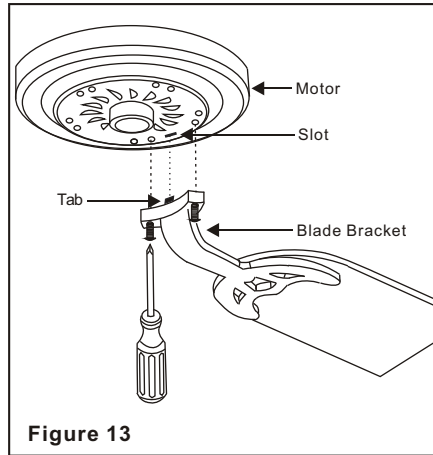

Figure 13
Step 3 Fasten the blade assemblies to the motor by insert the tab from the blade brackets to the slot in the bottom motor housing, then tighten the two screws and washers already installed in the blade brackets (Figure 13).